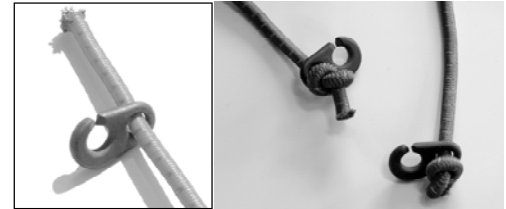

Figure: 55
2. With a stopper knot, attach the brummel hooks to each end of the bungee (Figure 55).